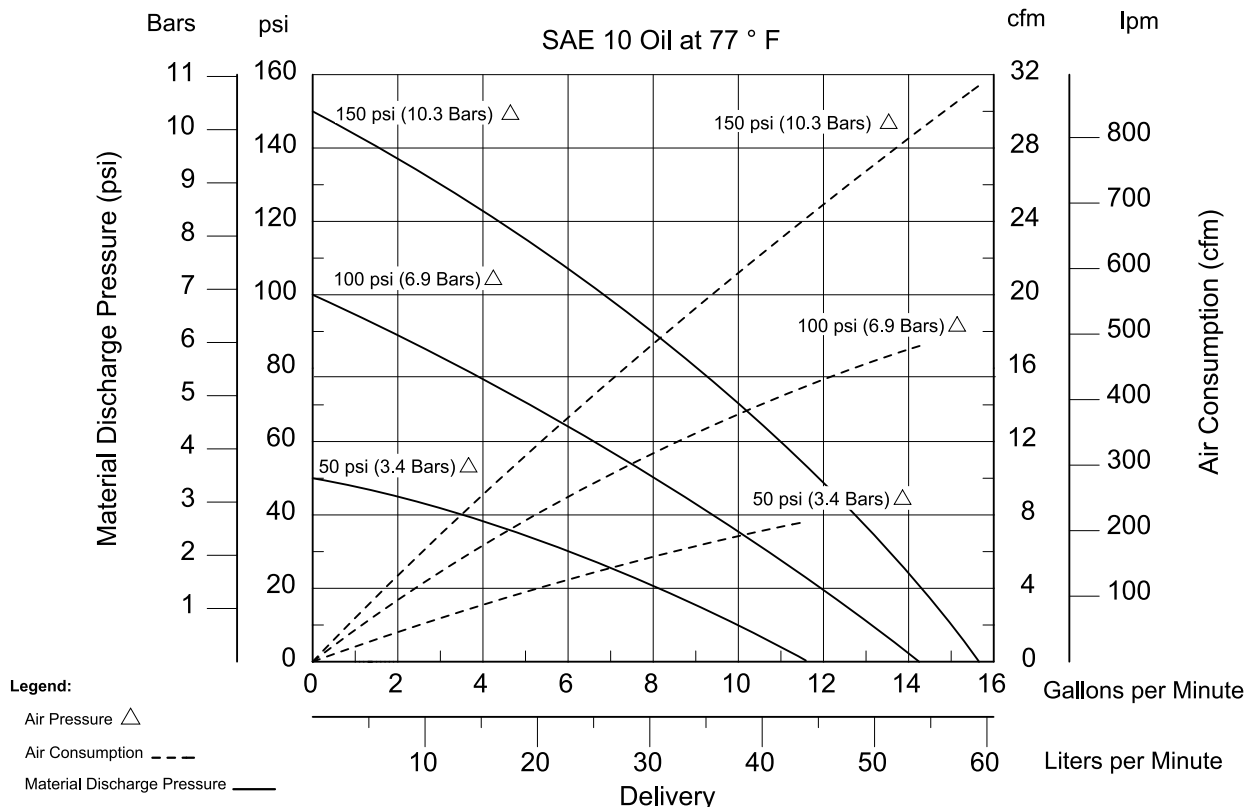

Figure 3 Delivery versus Discharge Pressure and Air Consumption
* For detailed information, refer to **Figure 3**.